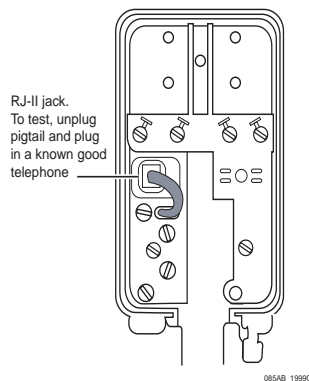

Figure 26. Troubleshooting
- Connect a known good telephone to the jack in the junction box. See Figure 26.